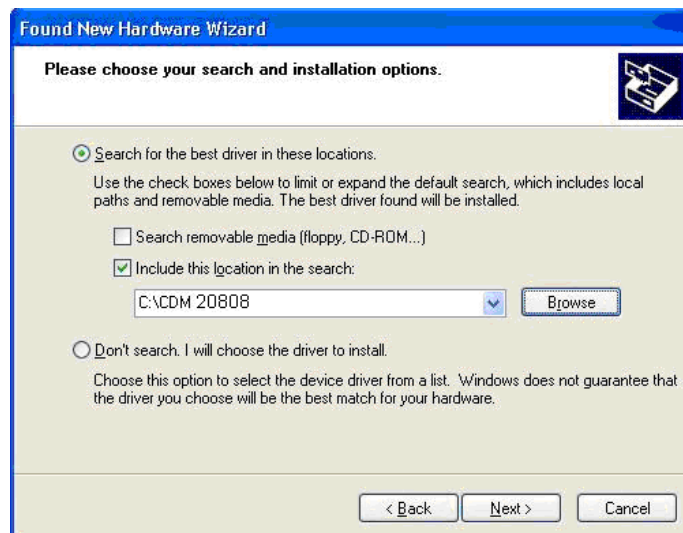

Figure 14
- Select "Search for the best driver in these locations" and enter the file path in the combo-box ("C:\CDM 20808" in figure14 below) or browse to it by clicking the browse button. Once the file path has been entered in the box, click next to proceed.